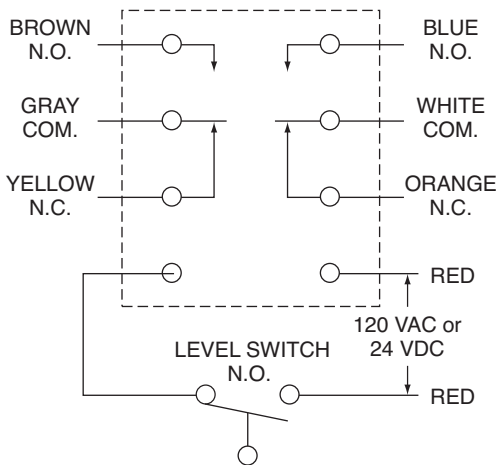

Figure 3
3. DPDT relay: Connect wiring to proper switch leads and run power supply according to the wiring diagram. See figure 3. This relay must be powered to function. 5A @ 24 VDC relay requires 24 VDC power supply while the 5A @ 120 VAC relay requires 120 VAC power supply.